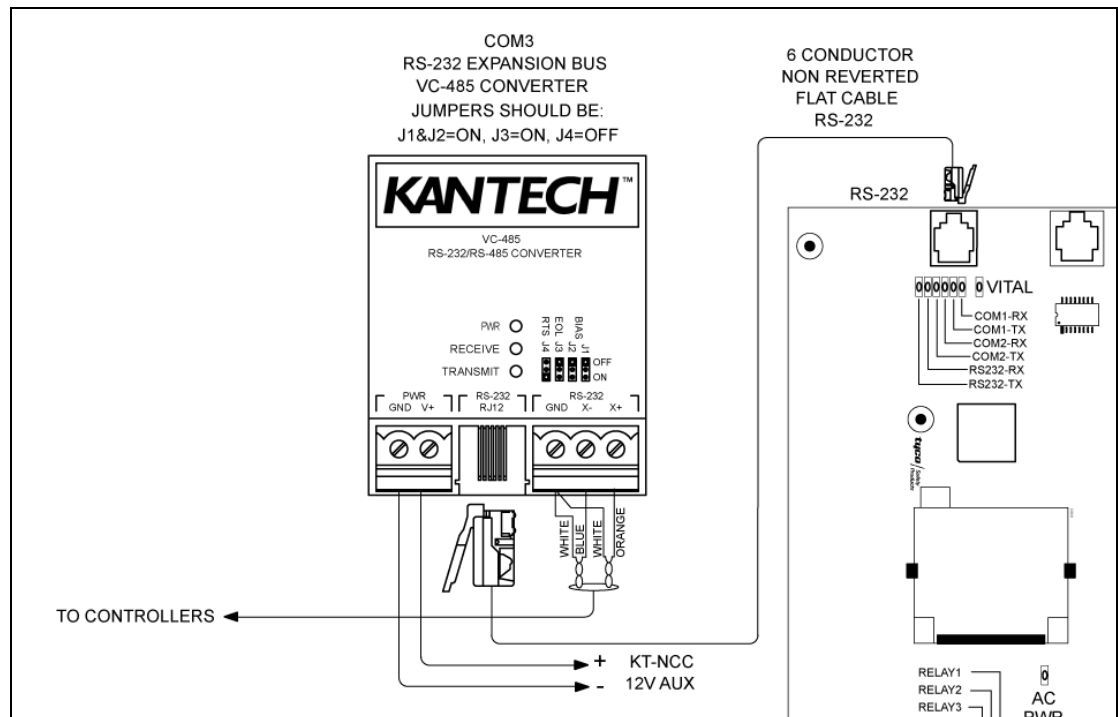

Figure 5. RS-232 Connection
2. The RS-232 connection is demonstrated in Figure 5 on Page 12. A straight flat cable connects from the RS-232 connector on the top of the KT-NCC board to a VC-485.